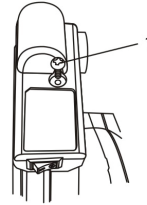

Fig.13
2. Remove the laser cover screw (1) using a #2 (+) screwdriver (Fig. 13).